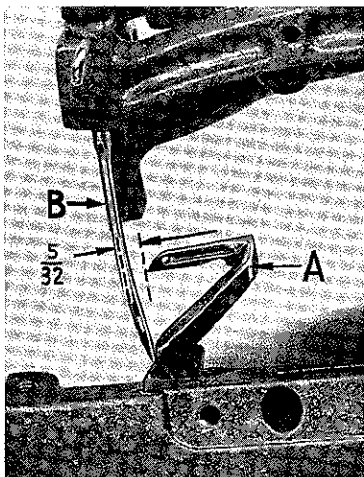

Fig. 3
The looper gauge is the distance between the point of the looper (A, Fig. 3) and the center of the needle (B) when the looper is in its extreme position to the right. This distance should be  $5/32$ " (Fig. 3).